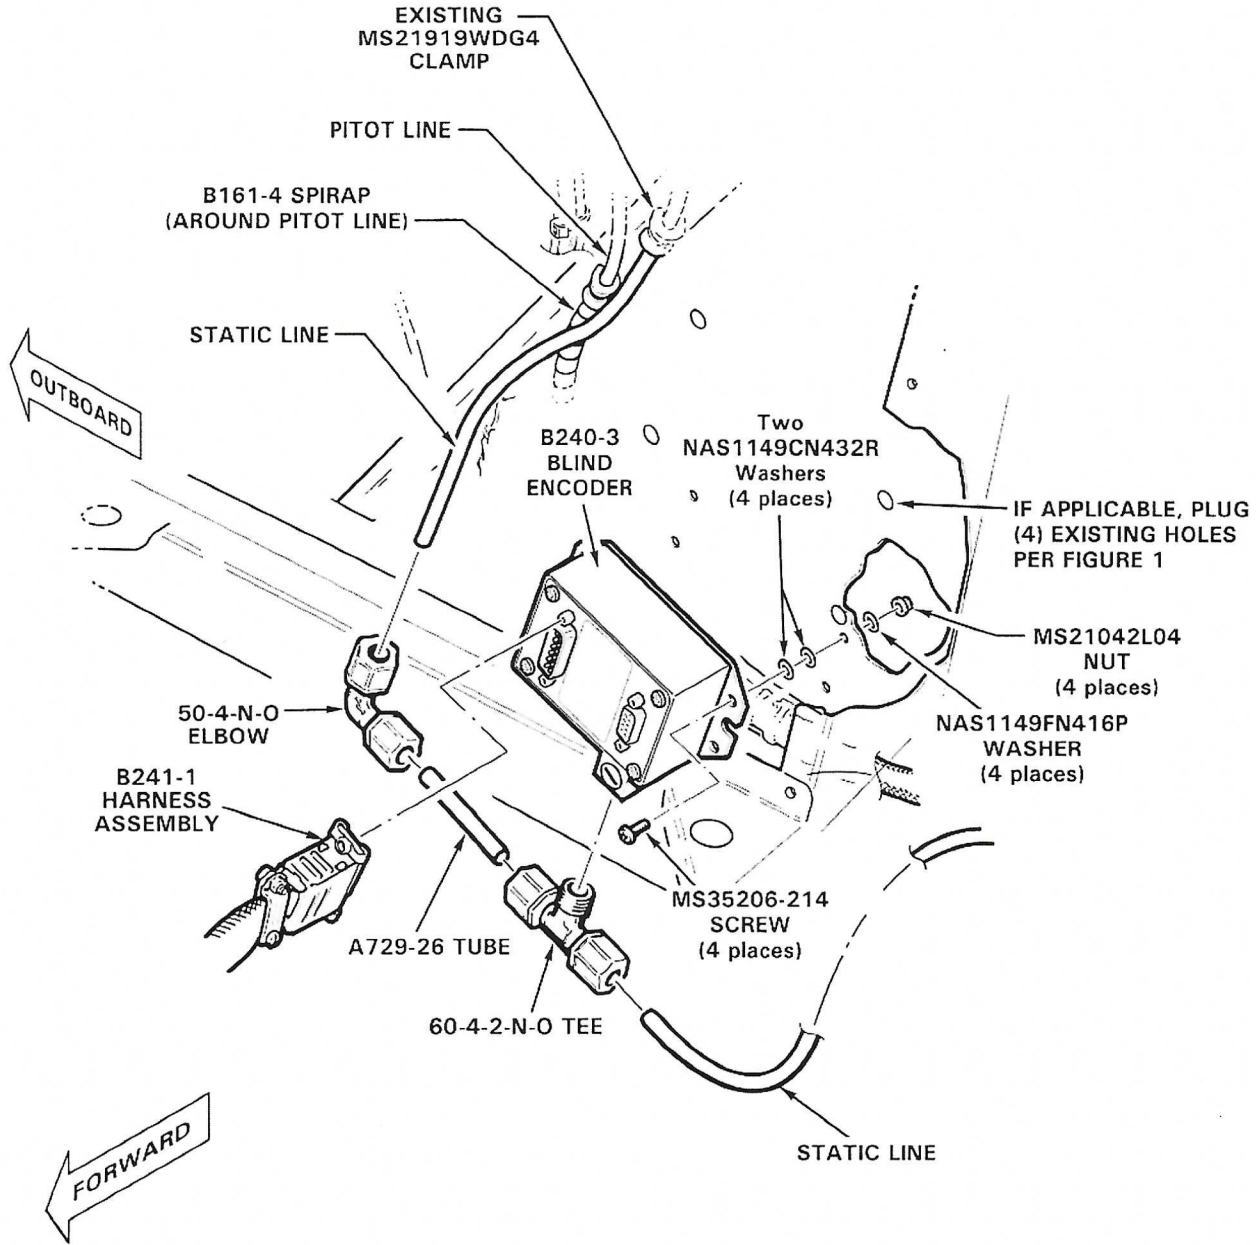

FIGURE 2 R22 B240-3 BLIND ENCODER INSTALLATION
4. Reference Figure 2. Install 60-4-2-N-O tee into blind encoder. Install A729-26 tube into tee and attach 50-4-N-O elbow on opposite end of tube.
5. Attach encoder to vertical firewall per Figure 2.
6. Reference Figure 2. Identify static line near blind encoder. Cut and trim static line as required and connect line to elbow and tee as shown. Wrap pitot line with B161-4 spirap as required to protect line from chafing.